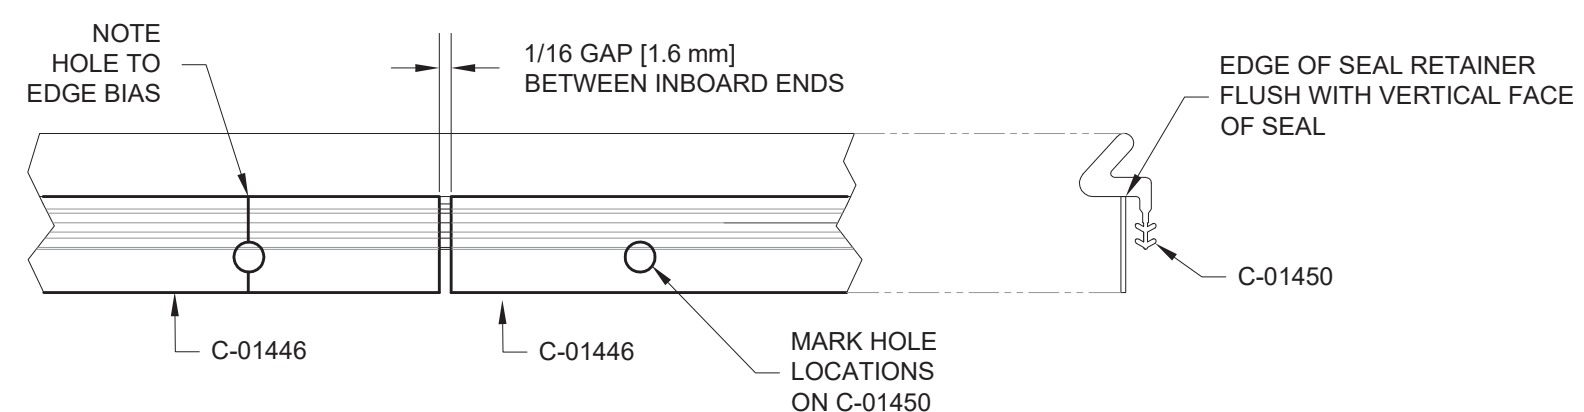

FIGURE 3: MARK REAR SEAL HOLE LOCATIONS
- Step 11: Lay the C-01450 Rear Seal (provided as a length of SEAL-00002 material) on a flat work table. Center the C-01446-L & -R Seal Retainers on top of the rear seal as shown in Figure 3.